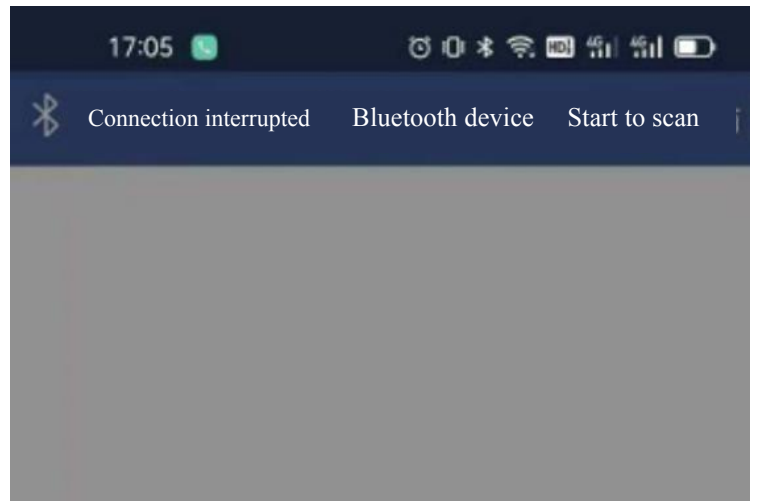

Figure 2.9
② Click "Start Scan" button. If nothing is displayed, click it for several times, as shown in Figure 2.9.
③ After scanning the device, select the device you need to connect and click the [Connect Device] button, and the mobile phone can communicate with the device in real time, as shown in Figure 2.9.